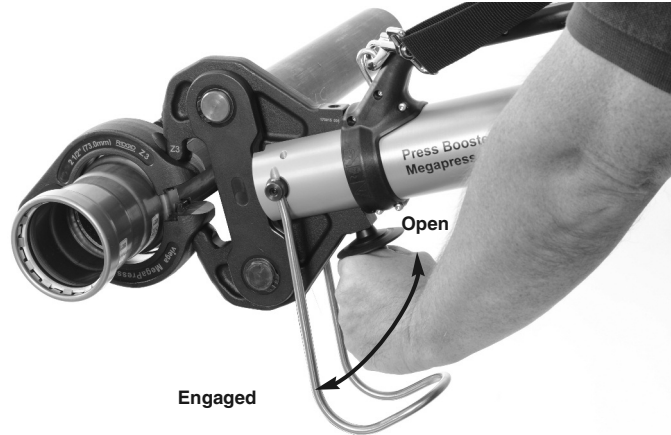

Figure 3 – Placing Actuator Tips Into Ring Pockets
3. Pull back on the press booster handle to open the actuator arms. Engage actuator spherical tips into the actuator pockets in the press ring (*Figure 3*). Move the press booster handle forward, making sure tips are fully engaged in pockets. Do not attempt to hang tool from press ring. Tool could unexpectedly drop causing serious injury or death.